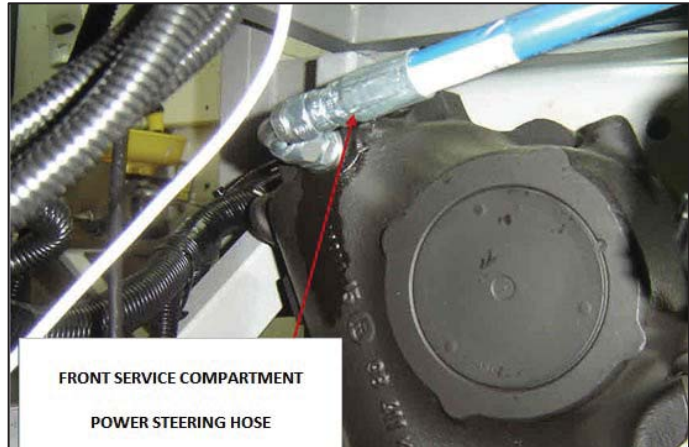

Figure 3
4. In front service compartment, locate the straight fitting on the upper hose. (Fig. 3)